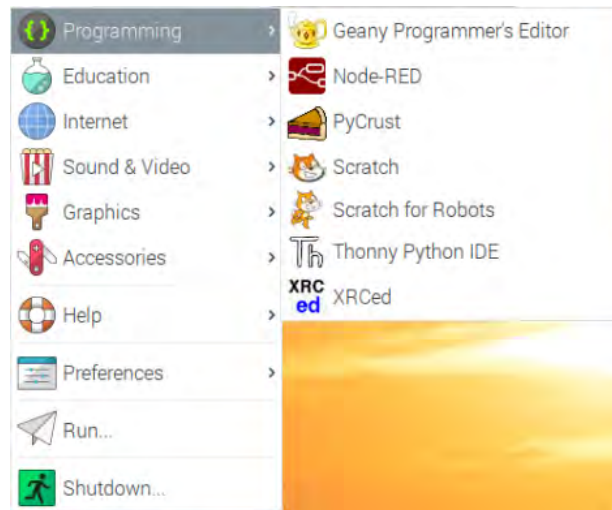

Figure 9.1: Opening Thonny Python IDE
13. Open Thonny Python IDE from the main Raspberry Pi panel as shown in Figure 9.1.